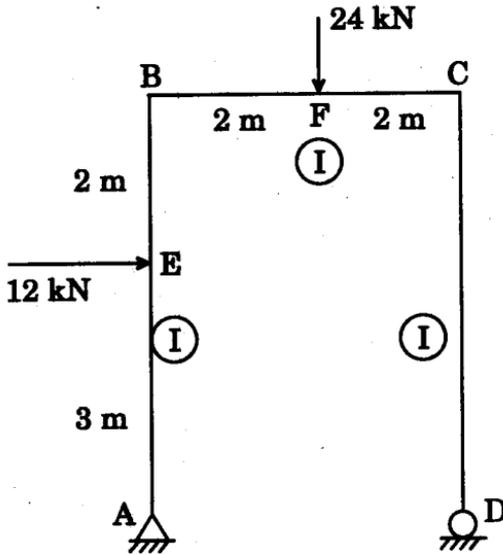

Figure 7
8. Determine the horizontal displacement and rotation at roller support in the frame shown in Figure 7 by Unit load method.